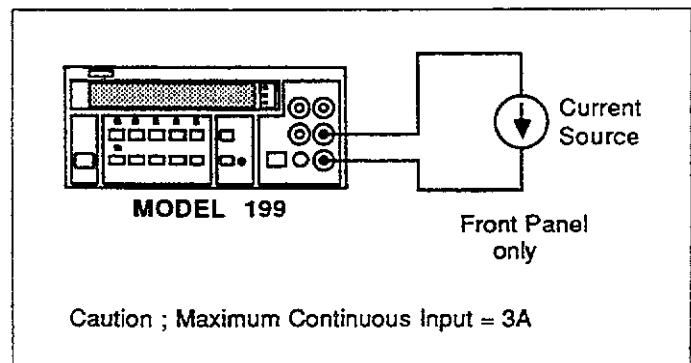

Figure 2-7. Current Measurements
3. Connect the signal to be measured to the front-panel input terminals as shown in Figure 2-7.